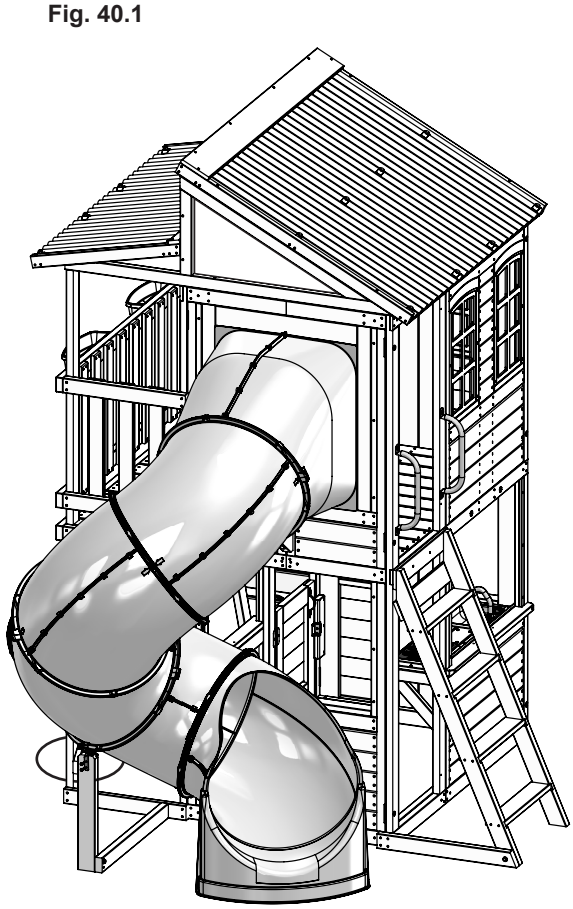

Fig. 40.1
- A:** Place 1 TNR4 Post Mount Clamp on either side of the Clamp Ring so that the bent tops clip in behind the Clamp Ring. (fig. 40.1 & 40.2)